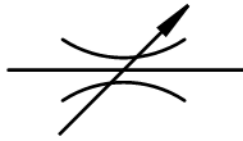

FIG 2.
C. The symbol for a variable flow control valve is shown in Fig 2.